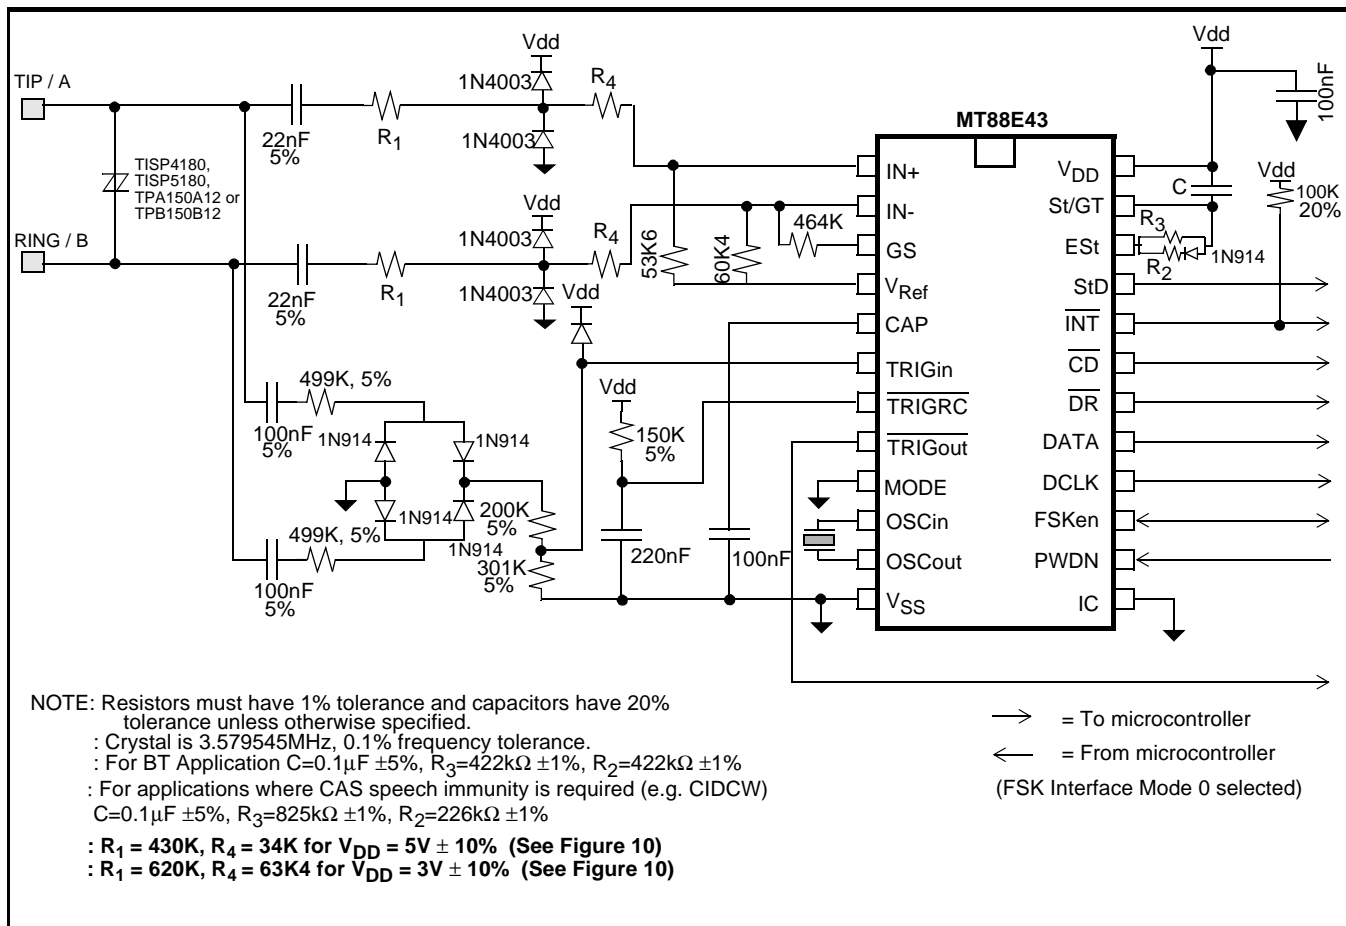
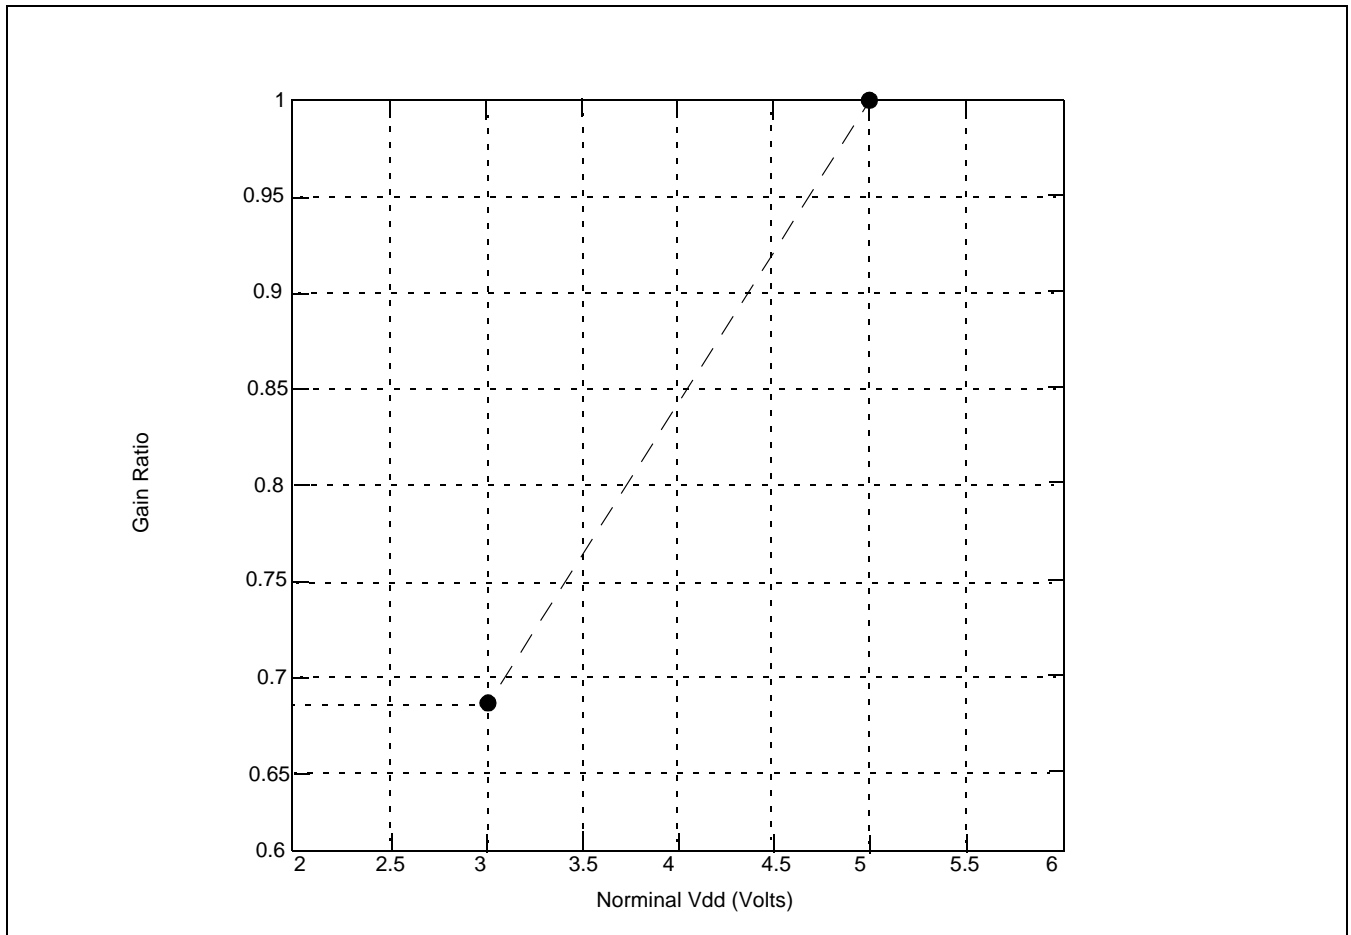

Figure 9 - Application Circuit
Figure 10: Gain Ratio as a function of Nominal Vdd
Figures 9 and 11 ($R2=R3=422K$, $C=0.1\mu F$) will meet the BT timing requirements.
The circuits shown in Figures 9 and 11 are application circuits for the MT88E43. As supply voltage (V_{DD}) is decreased, the threshold of the device's tone and FSK detectors will be reduced. Therefore, to meet the BT or Bellcore tone reject level requirements the gain of the internal opamp should be reduced according to the graph in Figure 10. For example when V_{DD}=5V (+/- 10%), R₁ should equal 430kΩ and R₄ should equal 34kΩ; and if V_{DD}=3V (+/- 10%) R₁ should equal 620kΩ and R₄ should equal 63.4kΩ. Resistors R₁ and R₄ are shown in Figures 9 and 11.
The circuit shown in Figure 9 illustrates the use of the MT88E43 in a proprietary system that doesn't need to meet FCC, DOC, and UL approvals. It should be noted that if glitches on the tip/ring interface are of sufficient amplitude, the circuit will falsely detect these signals as ringing or line reversal.
Note: In the application circuits shown in Figures 9 and 11, the Gain Ratio of MT88E43 opamp is
- With gain setting as shown in Figure 10. Production tested at $3V \pm 10\%$, $5V \pm 10\%$.